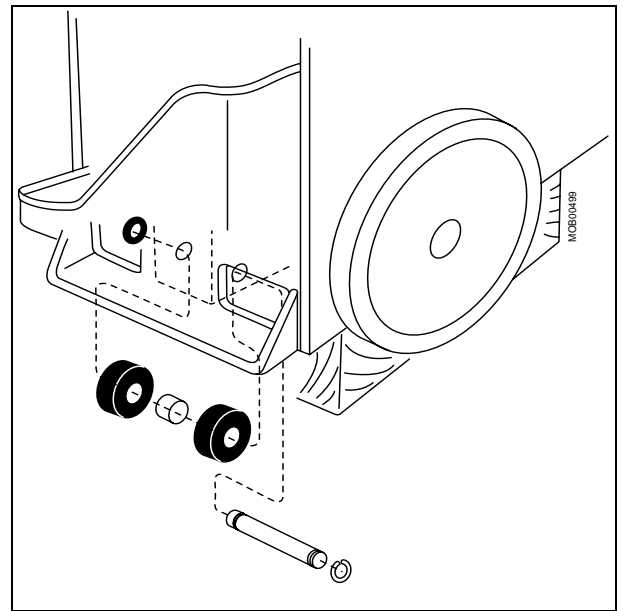

Fig. 26
- Remove the locking ring through the hole in the tilt bar (Fig. 26).